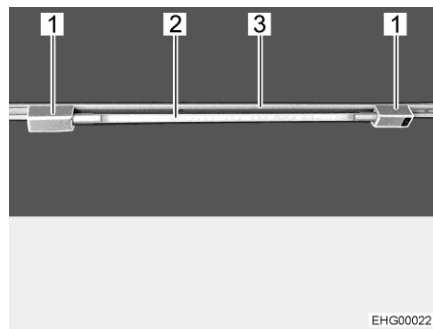

Fig. 37 Fluorescent tube
Inserting fluorescent tube: ■ Insert both brackets (Fig. 37,1) into the rail (Fig. 37,3). In order to do this, turn bracket through 90°.
■ Plug lamp body (Fig. 37,2) into one of the brackets.
Turning fluorescent tube: ■ Turn lamp body handle (Fig. 37,2) until the desired lighting effect is achieved.